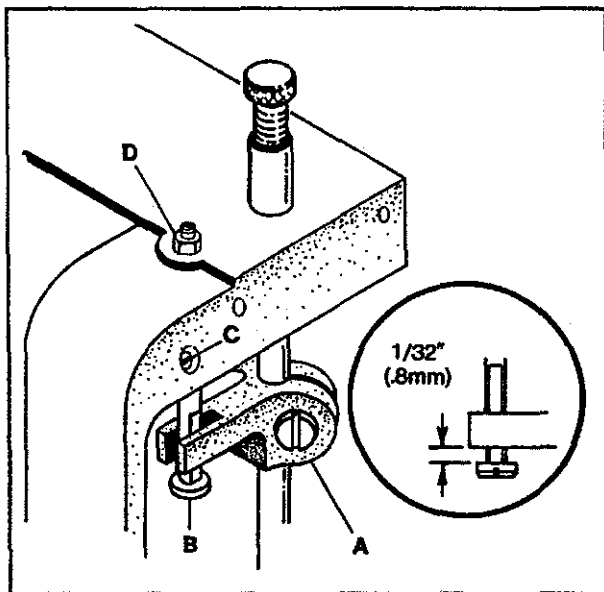

FIG. 36
Turn handwheel in operating direction until the feed dogs are below the throat plate surface. At this time there should be a $1/32''$ (0.8mm) clearance between the bottom of presser bar guide (A, Fig. 36) and presser bar guide stud (B). Loosen screw (C) and turn nut (D) as required. Tighten screw (C). When sewing on extremely lightweight material and/or feed cutting is a problem, the presser foot may be "hung" by raising stud (B) until guide (A) rests on the shoulder of stud (B). This adjustment will raise the presser foot slightly, so only the pressure of the presser foot shoes contact the material.